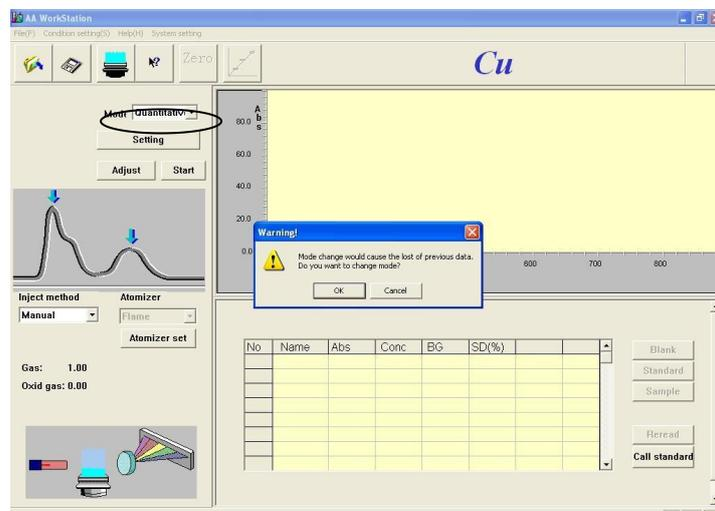

Figure 5-20
4. As shown in Figure 5-20, select "Quantitative analysis" in the pull-down list.